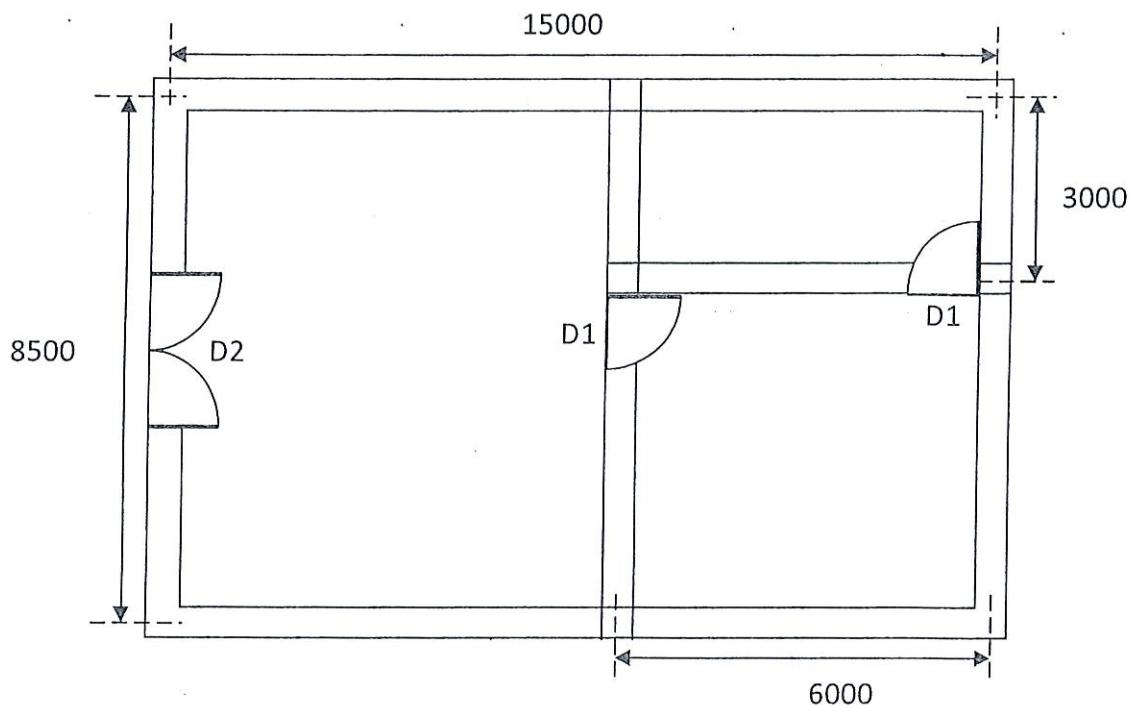

Figure B4 : Drawing DCC2073/B4
- b) **Figure B4 :** Drawing DCC2073/B4 shows a plan view of a floor. Based on the data given, calculate the quantity measurement for External Wall.
- c) Based on the **Figure B4 : Drawing DCC2073/B4** and the data given as above, calculate the quantity measurement for Internal Wall.